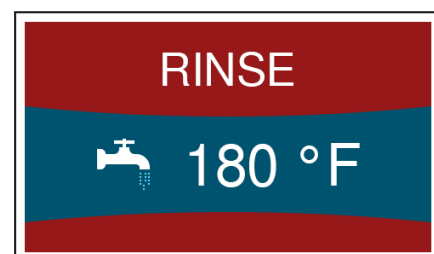

Fig. 43 - Rinse Screen
6. Displays RINSE during rinse state and rinse tank temperature. Water droplets simulate water flow (see Fig. 43).